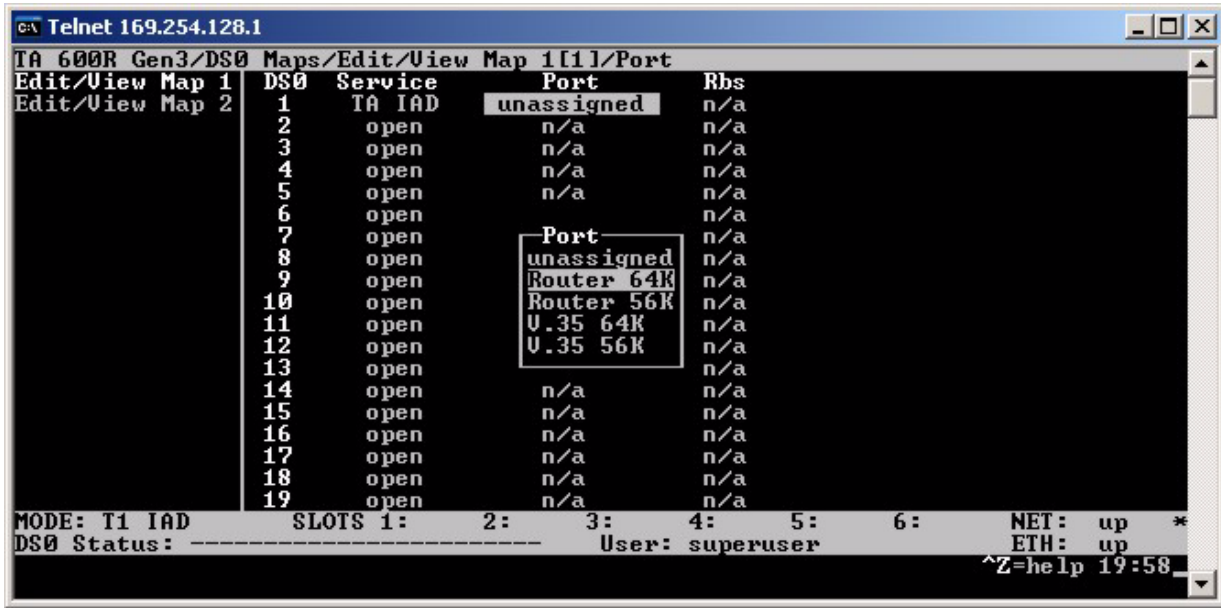

Figure 100: Mapping a DS0 port
9. Select **Router 64K** for the **Port** as shown in Figure 100.